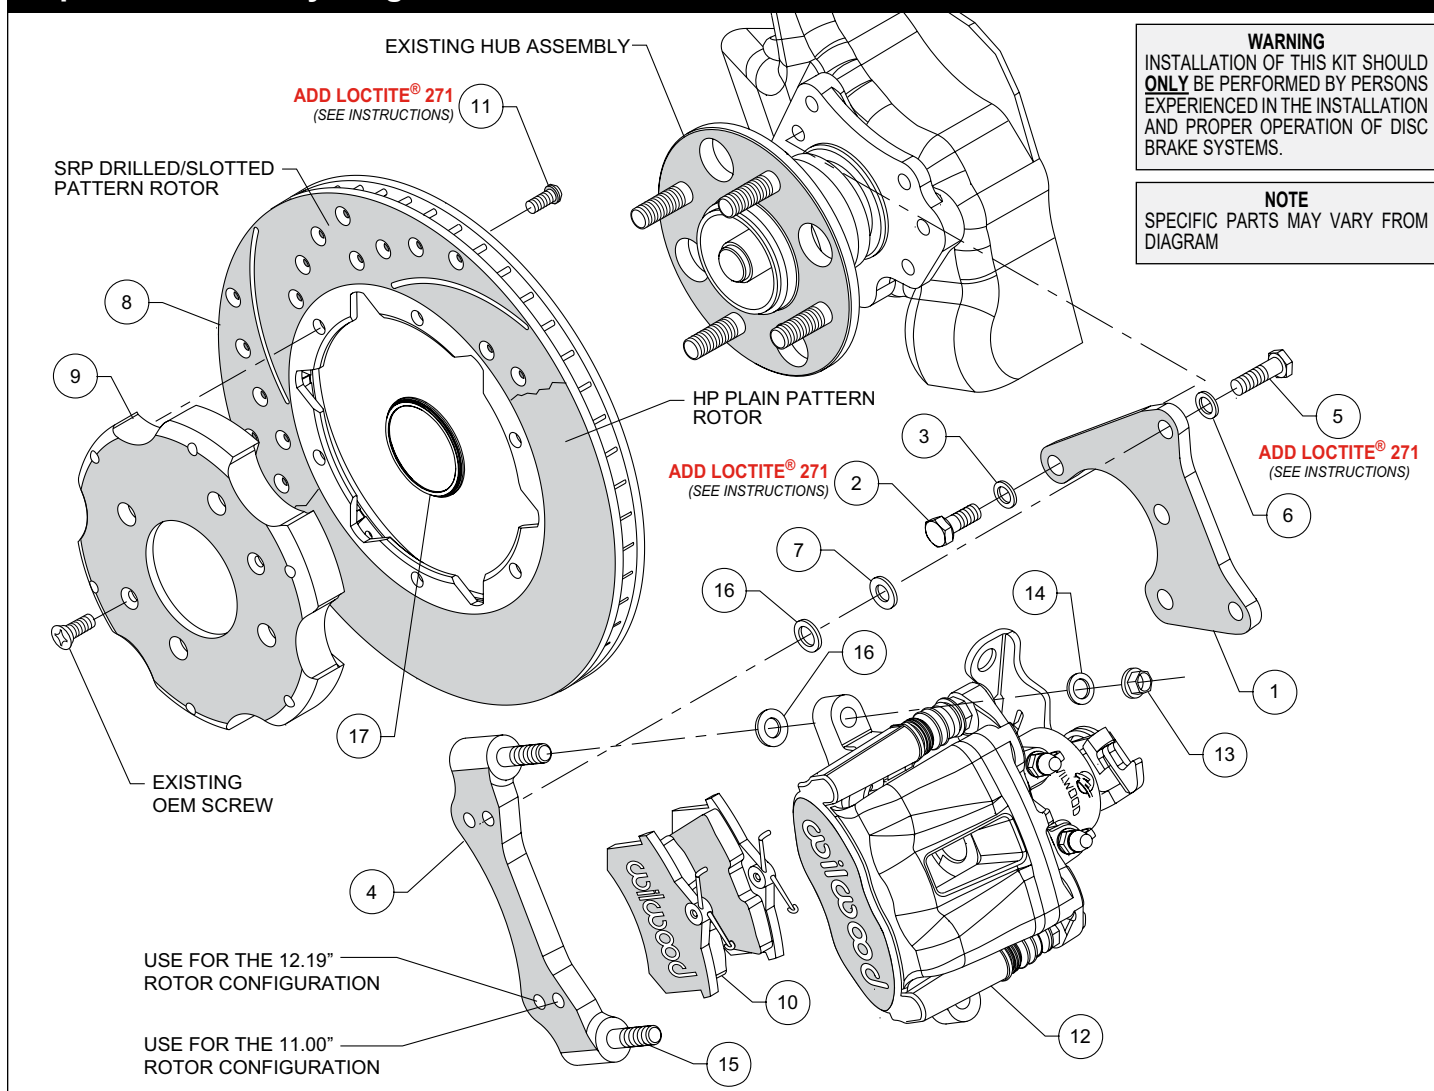

Figure 1. Typical Installation Configuration
- The flat axle bracket (1) should initially be installed with clean, dry threads on the mounting bolts. Orient the axle bracket as shown in Figure 1, and install using bolts (2) and washers (3). Temporarily tighten the mounting bolts. **NOTE: The bracket must fit squarely against the mount bosses on the upright.** Inspect for interference from casting irregularities, machining ridges, burrs, etc. Remove the bracket mounting bolts (2) one at a time, apply red *Loctite*® 271 to the threads, and torque to 40 ft-lb.
- The caliper bracket (4) should initially be installed with clean, dry threads on the mounting bolts. Orient the caliper bracket as shown in Figure 1, and attach to the axle bracket (1) using bolts (5) and washers (6). Initially place two .035" thick shims (16) between the two brackets, Figure 1. Temporarily tighten the mounting bolts. Later, after the caliper alignment has been checked, the mount bolts will be secured using red *Loctite*® 271.
- Orient the rotor (8) and hat (9) as shown in Figure 1 and Photo 1. Attach the rotor to the hat using bolts (11). Using an alternating sequence, apply red *Loctite*® 271 to the threads, and torque to 25 ft-lbs.
- Slide the rotor registration adapter (17) onto the axle register on the axle hub with the smaller O.D. facing outward, Photo 2.
- Install the brake pads (10) into the caliper (12) from the bottom, with the friction material facing the rotor, until the "v" spring clip snaps into place against the anvil, as shown in Figure 1 and Photo 3. They should install easily without interference.
- Initially place two .035" thick shims (16) on each stud as shown in Figure 1. Mount the caliper (12) onto the bracket (4) using lock nuts (13) and washers (14), Figure 1 and Photo 4. Temporarily tighten the lock nuts and view the rotor from the end of the caliper. The rotor should be centered in the caliper, Photo 5. If not, adjust by adding or subtracting shims (7 and/or 16) between the axle bracket (1) and the caliper bracket (4). Always use the same amount of shims on each of the two mounting bolts. Once the caliper alignment is correct, remove the caliper bracket mounting bolts (5) one at a time, apply red *Loctite*® 271 to the threads, and torque to 35 ft-lb.
- Check that the top of the brake pad (10) is flush with the outside diameter of the rotor (8), Photo 6. If not, adjust by adding or subtracting shims (16) between the caliper and the bracket. After the caliper pad height is set, torque the caliper lock nuts (13) to 30 ft-lb.